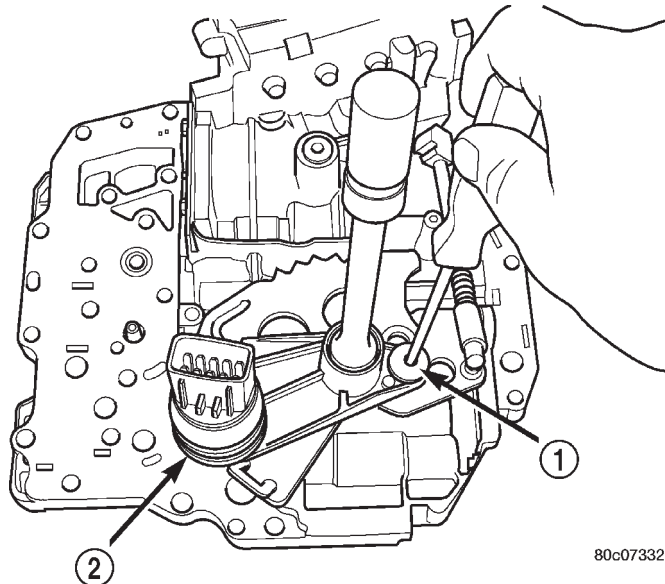

Fig. 120 TRS/Manual Shaft Retaining Screw
- (1) Remove manual shaft seal.
- (2) Remove manual shaft screw (Fig. 120).